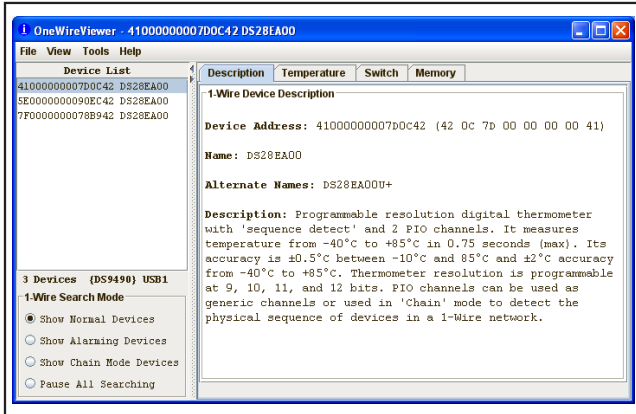
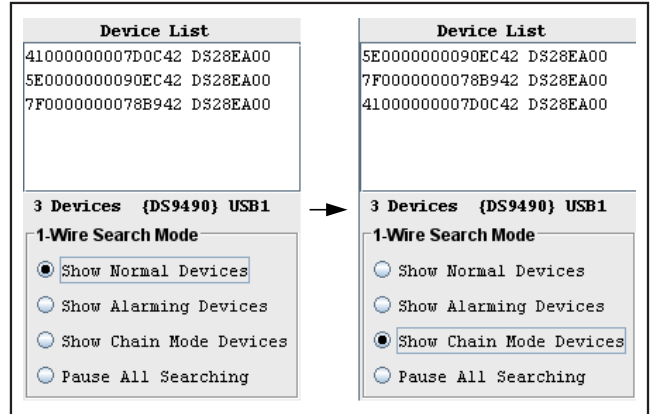
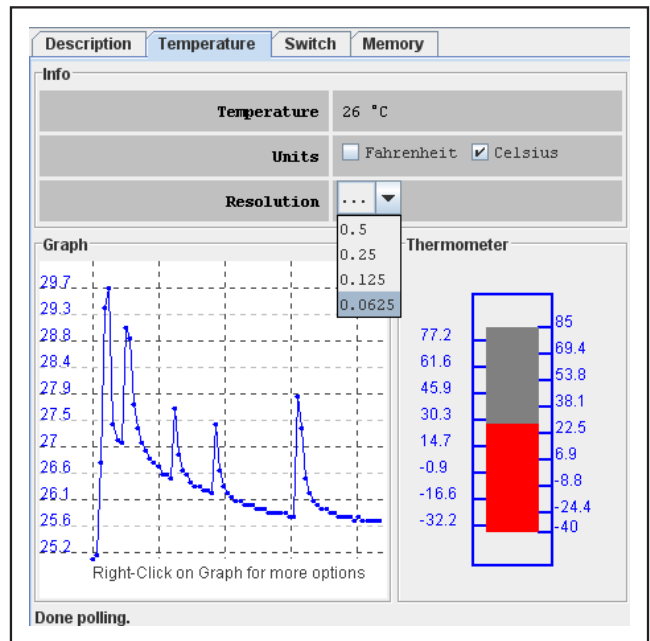

Figure 3. OneWireViewer Main Window
Figure 4. Normal- vs. Chain-Mode Searching in the OneWireViewer
Figure 5. OneWireViewer Function Tabs: Temperature
See the OneWireViewer's main window in Figure 3. Note that it is made up of three sections:
- 1) **Device List.** The device list shows the 1-Wire network addresses of all 1-Wire parts connected on the specified 1-Wire network, along with the part number. For this EV board, it lists all three DS28EA00s. Figure 3 shows three DS28EA00s on the network.
- 2) **Search Mode.** Three search modes, along with **Pause All Searching**, are listed in the lower left-hand corner of Figure 3. The **Show Normal Devices** mode is actually a binary tree search, so the device order in the device list does not indicate physical connection sequence. **Show Alarming Devices** is a search mode that finds alarming devices, such as a DS28EA00 whose temperature is above the high-temperature alarm trip point or below the low-temperature alarm trip point. Finally, **Show Chain Mode Devices** is a search mode that orders the device list of the OneWireViewer in order of physical connection sequence. If a nonchain-mode device is connected to the network, it does not participate in the search and does not show up in the device list. See an example of chain-mode searching in Figure 4.
See Figure 4 for two screenshots of the OneWireViewer's device list. Keep in mind that chain-mode searching arranges the device list of the OneWireViewer in order of physical connection sequence, and normal-mode searching arranges the device list in the order of the 1-Wire search algorithm. The first screenshot shows normal-mode searching and the second shows chain-mode searching. Notice how the device list rearranges when selecting the different 1-Wire search modes.
The **Description** tab is shown in Figure 3. It is present for any selected 1-Wire device and just gives a textual overview of the part's features and specs. The **Temperature**, **Switch**, and **Memory** tabs are described in the following sections and shown visually in Figures 5, 6, and 7, respectively. For detailed documentation on the DS28EA00's temperature, memory, and PIO (switch) operation, refer to the DS28EA00 data sheet: www.maxim-ic.com/DS28EA00.
As seen in Figure 5, the OneWireViewer's **Temperature** function tab is made up of three sections: **Info**, **Graph**, and **Thermometer**. The info section displays the most recently sampled temperature, gives the user a choice